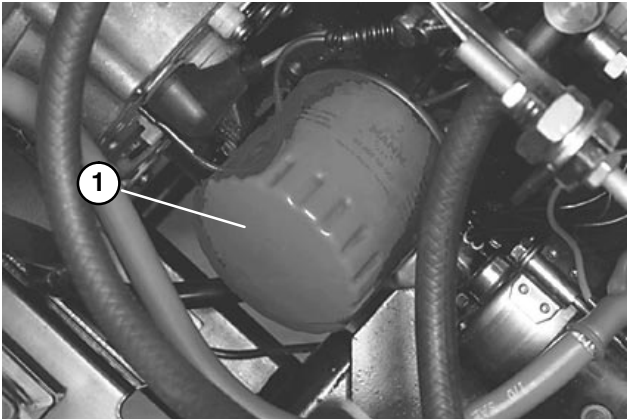

Figure 29
2. Remove oil filter (Fig. 29). Apply a light coat of clean oil to the new filter seal before screwing it on. DO NOT OVER-TIGHTEN.